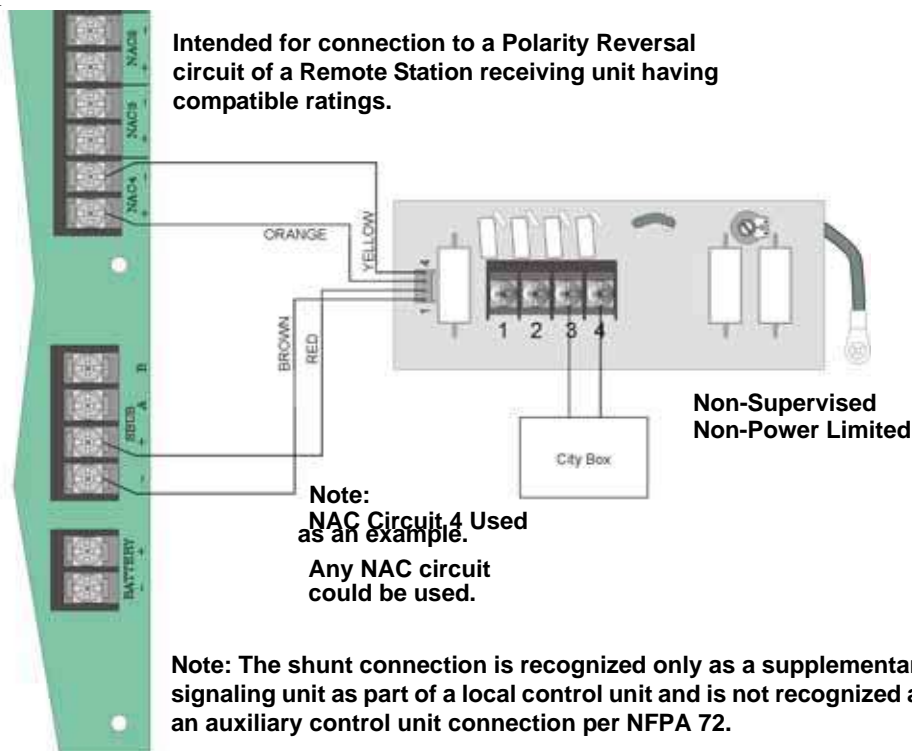

Figure 4-38 City Box Connection
2. Wire the 5220 to the control panel as shown in Figure 4-38. This drawing also shows how to connect the city box coil to terminals 3 and 4 on the 5220. Do not install an EOL resistor in the terminals of the NAC circuit used for this application.